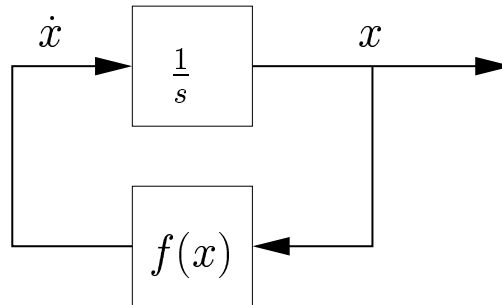

Figure 2: Block diagram for the simulation.
- (c) We would like to build a simulation of the pendulum in Simulink. Schematically, a simulation of the system described with a state-space model looks like Figure 2.